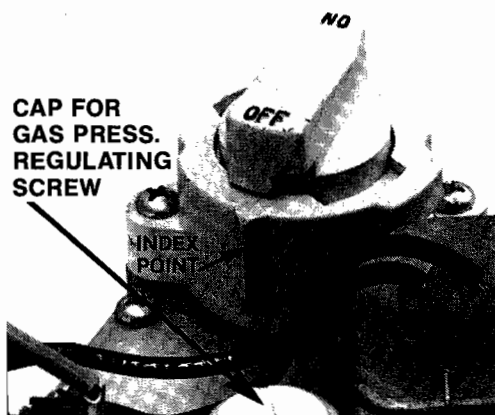

FIGURE 39
22. Remove the plastic cover from the gas valve and turn gas valve to ON. See Figure 39. (Manual gas valve must be open.)
Turn on manual gas valve and rotate automatic gas valve to the ON position. Refer to Figure 39 regarding gas valve knob and index point.
- Read the negative gas pressure on the manometer. It should read negative .20 inches water column. If the reading is higher than negative .10 inches (close to zero) the input will be high. If the reading is lower than negative .30 (further away from zero), the input will be reduced. Readings within these tolerances (plus or minus .10 inches) will allow approximately a $\pm 3\%$ BTU input change from the normal. If the negative pressure doesn't read $-.20''$ remove the cap (see Figure 39) from gas valve and turn adjusting screw accordingly. Replace cap before taking reading.